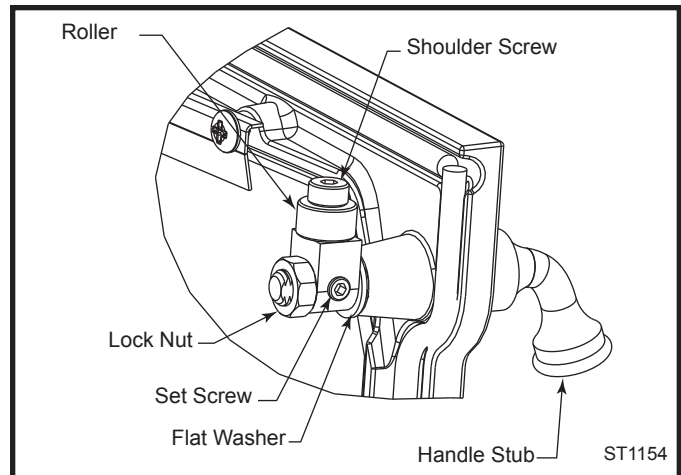

Fig. 44 Rotate pawl and/or remove flat washer to adjust latch.
1. Remove and retain the lock nut with a 9/16" wrench. (Fig. 44)